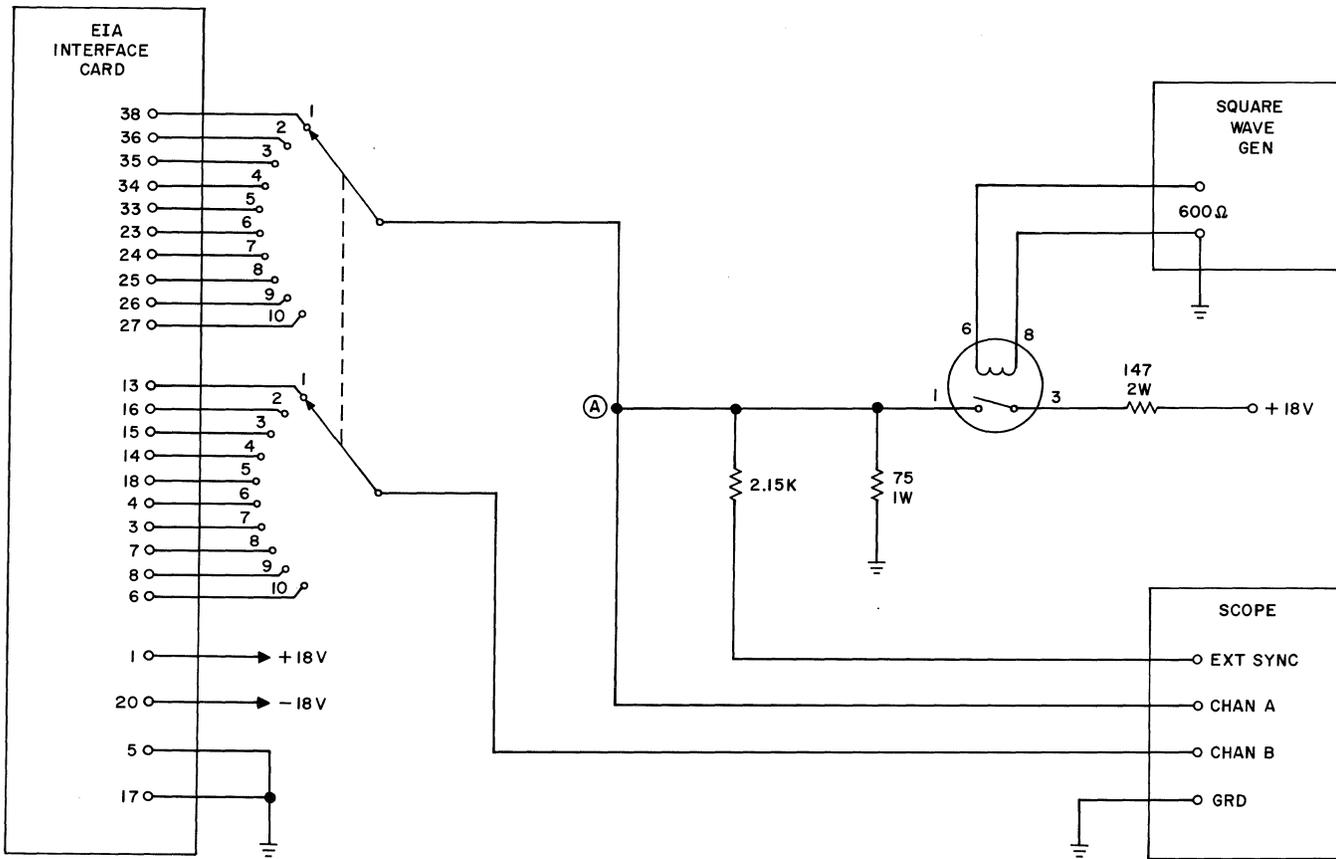

Fig. 36 — EIA Interface Test
- (a) With the card connected as in the suggested test circuit shown in Fig. 36, connect ground to terminals 5 and 17, +18 ( $\pm 0.5$ ) volts dc to terminal 1, and -18 ( $\pm 0.5$ ) volts dc to terminal 20. Temporarily short terminal 1 to terminal 3 of the mercury relay. The voltage between point A and ground should measure +6.0 ( $\pm 0.3$ ) volts dc with the voltmeter. Remove the short on the mercury relay and set the frequency of the square-wave generator between 40 and 50 cps. Set the EXT SYNC TRIGGER on the scope to (+) positive.